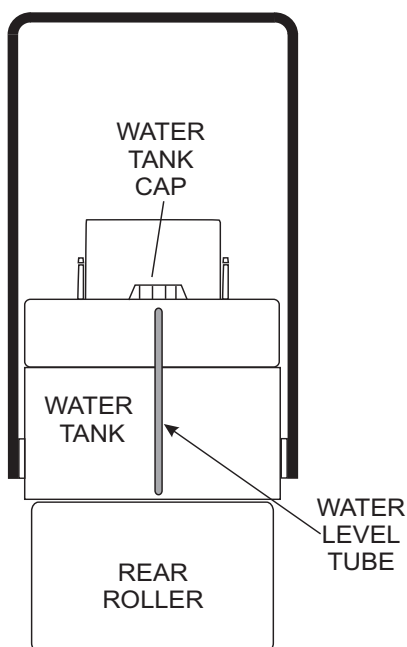

Figure 15. Water Tank
2. The amount of water inside the water tank can be visually inspected by reading the water tube (Figure 15) that runs vertically along the water tank at the rear of the roller. This tube indicates the amount of water inside the water tank. Total tank capacity is 40 gallons (152 liters)